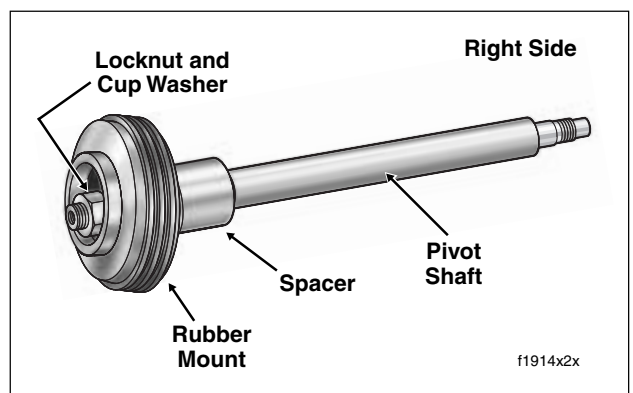

Figure 2-102. Pivot Shaft Assembly
18. Moving to left side, pull pivot shaft assembly (pivot shaft, locknut, cup washer, rubber mount and outer spacer) out of transmission mount and left side swingarm. See Figure 2-102.
1. Partially install locknut on right side of pivot shaft. Install second locknut on right side until it contacts the first. Holding first locknut to prevent rotation of shaft, remove left side locknut. See Figure 2-102.
4. The pivot shaft secures the rear swingarm and transmission to the vehicle frame. See Figure 2-102. Install the pivot shaft as follows: